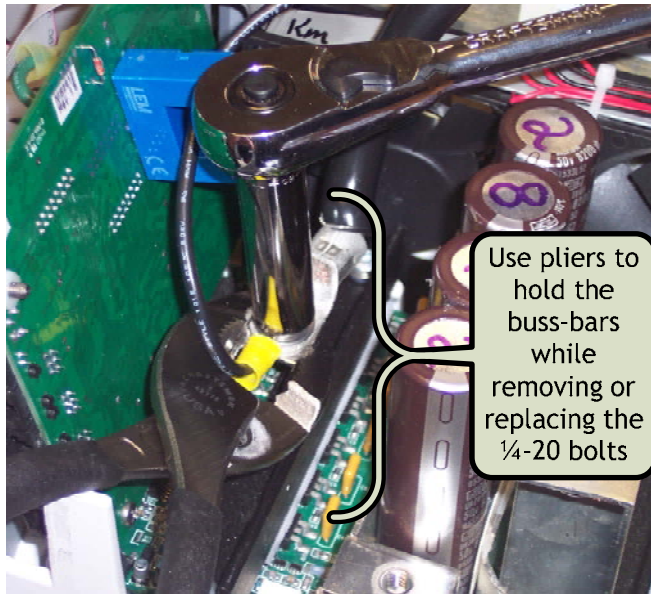
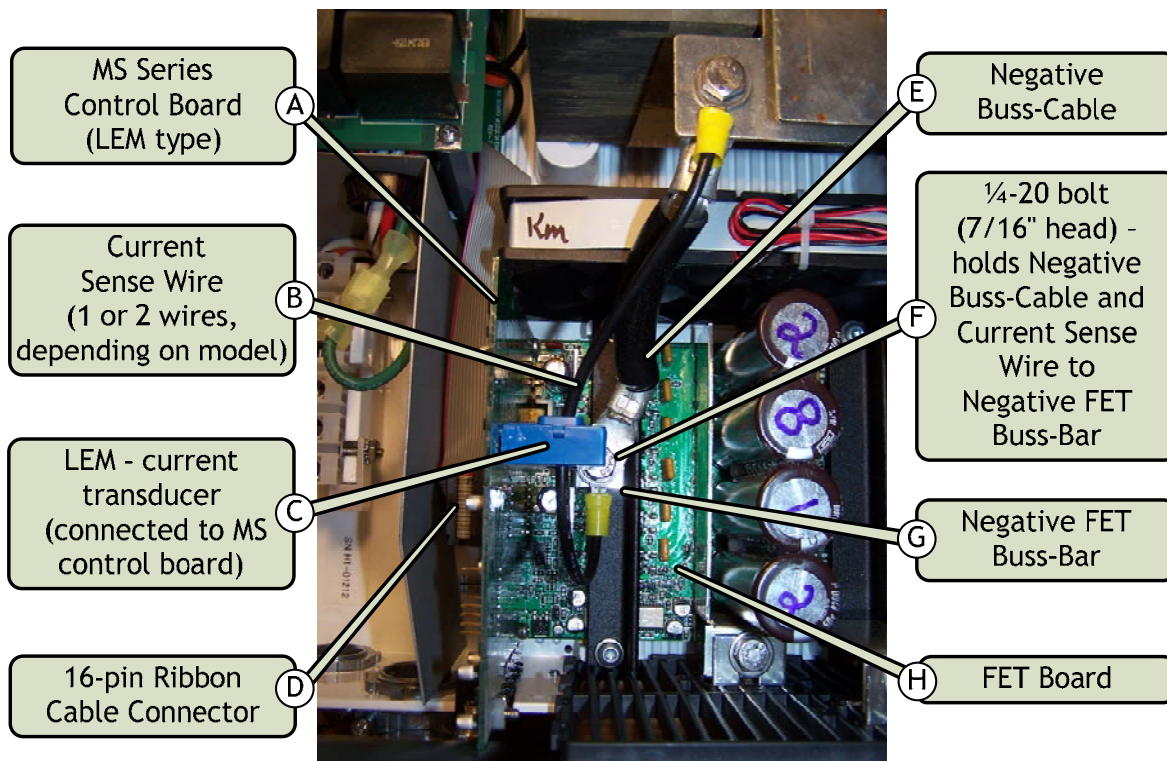

Figure 4, Preventing Buss-bars from twisting
Figure 7, MS Series Inverter - Control Board Section
4.1.2 Locate the MS Series control board (figure 7, item A) in the inverter and verify that it has a blue DC current transducer (referred to hereafter the "LEM") on the back; see figure 7, item C.
4.1.4 Firmly pull up on the control board by its top edge (or upper corners) to remove it from the bottom 16-pin connector on the FET board. The current sense wire (figure 7, item B) will still be attached thru the LEM on the back.
4.1.6 Move the control board aside to provide access to the ¼-20 bolt (7/16" head) screwed into the negative FET buss-bar; see figure 7, item F. Remove this ¼-20 bolt and at the same time use a pair of pliers to hold the negative FET buss-bar in-place. This will prevent the buss-bar from twisting while this bolt is being removed; see figure 4.
4.1.7 After removing the bolt, pull the loose side of the current sense wire (figure 7, item B) out of the LEM.
4.2.1 Remove the new control board from its antistatic bag and place the loose side of the current sense wire (figure 7, item B) back thru the LEM.
4.2.2 Reconnect the negative buss-cable and the current sense wire (running thru the LEM) to the negative FET buss-bar using the ¼-20 bolt; this connection must be torqued to 130 in. lbs. Use a pair of pliers to hold the negative FET buss-bar in-place while this bolt is being tightened to prevent the buss-bar from twisting or breaking. See figure 4 for reference.